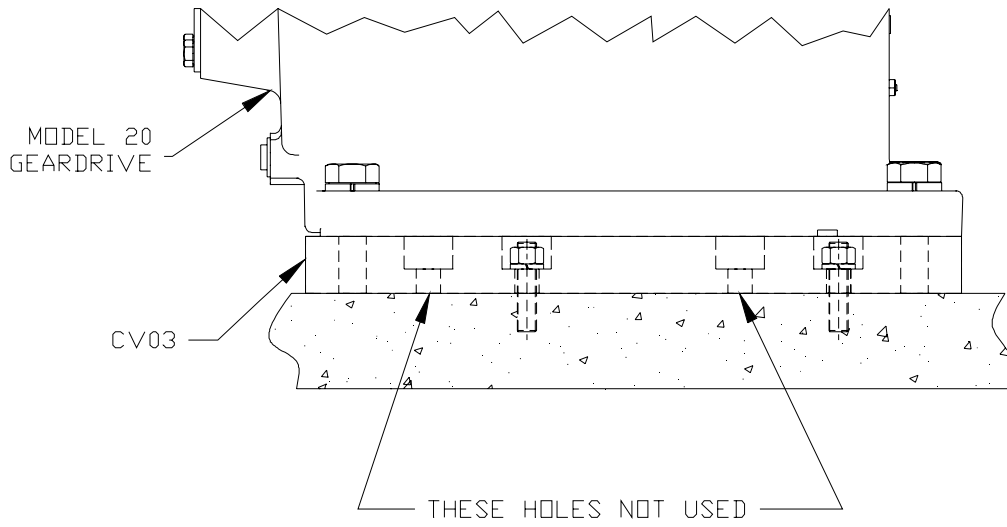
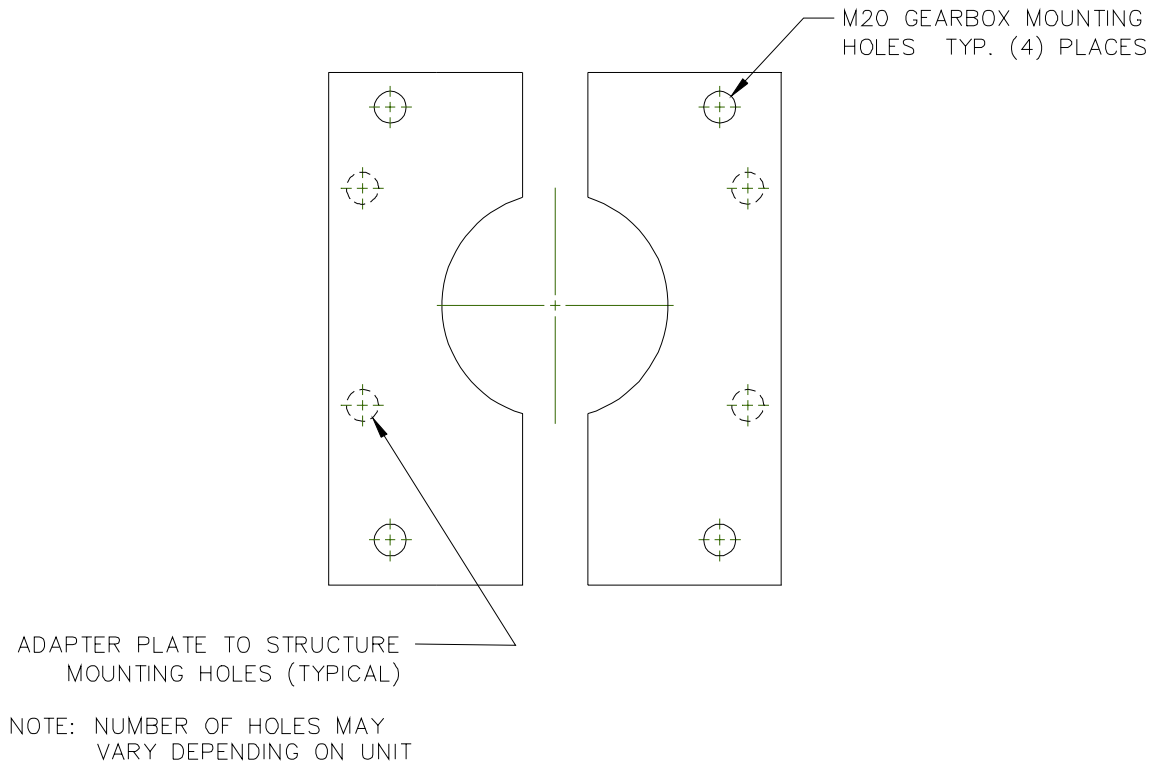

Figure 6. Stud Mounting
Figure 8. Adapter Plate Mounting Holes Orientation
1. With Legacy HT gear drive removed, attach mounting plates **[CV03]** onto existing structure utilizing customer supplied studs or bolts. (*Figure 6 or 7, page 9*). Note: Adapter plates are universal for left and right side. Be sure to orient holes per figure 8.